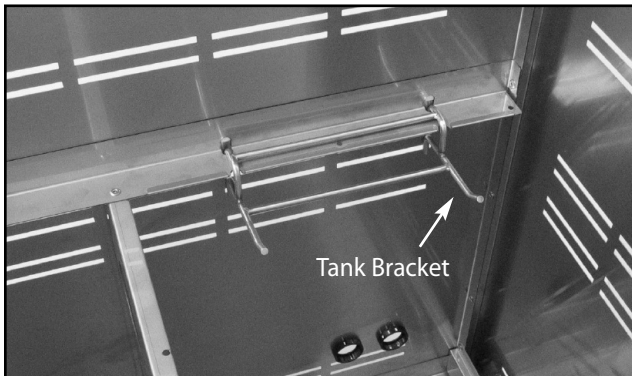

Fig. 29
1. Attach tank bracket on the right side of the cart as shown in Fig. 29.